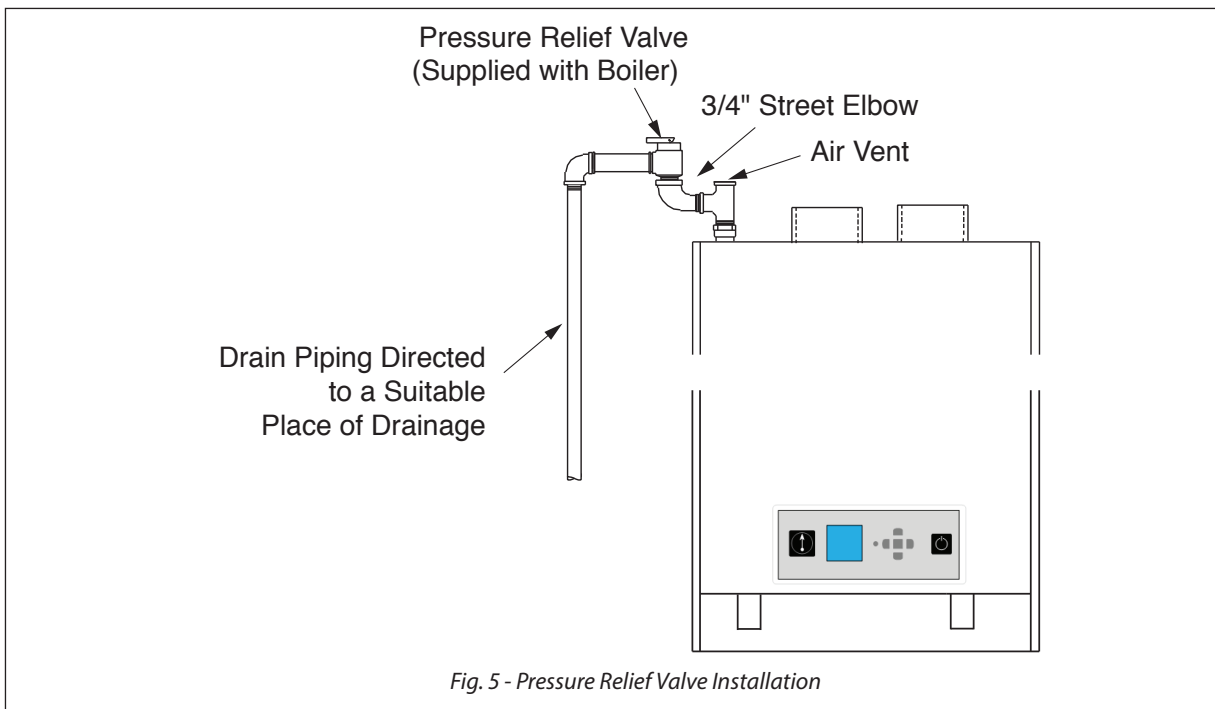

Fig. 5 - Pressure Relief Valve Installation
1. The PRESTIGE Excellence is supplied with a 30 psi pressure relief valve and must be piped using the PRV connection as shown in *Fig. 5 below*.